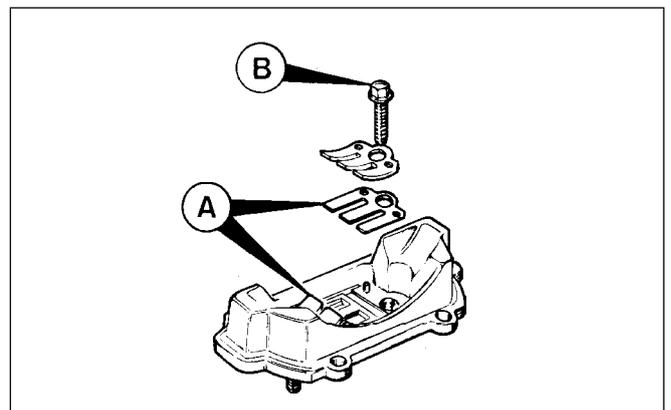

Fig. 3
Fig 3 shows the reed plate. In case of a broken or damaged reed it is necessary to change the two reeds (A) by removing the two screws (B).
**NOTE** - Use Loctite or similar for sealing when fitting the two screws (B).